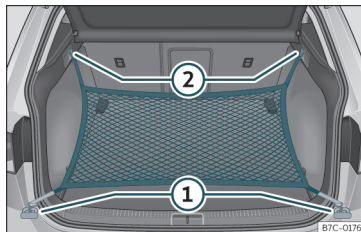

Fig. 112 In the luggage compartment: rings ① and hooks ② for attaching the net bag.
- Secure the short net hooks to the fastening rings >>> **Fig. 112** ① >>> ⚠. The bag zip should be facing upwards.
- Secure the straps in the bag hooks ②.